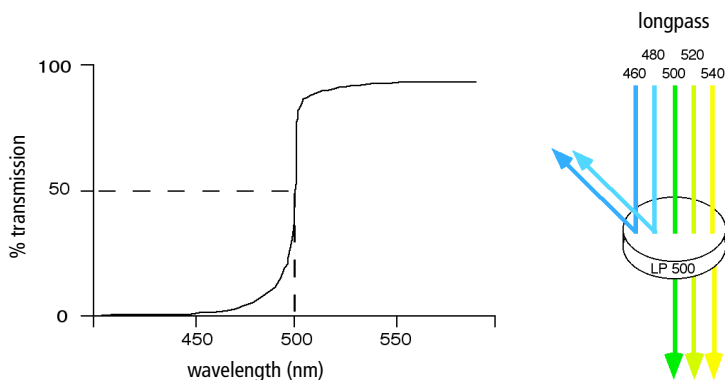

Figure 2-9 Light reflection by longpass filter
Longpass (LP) filters pass wavelengths longer than the filter rating and reflect shorter wavelengths. For example, a 500 LP filter permits wavelengths longer than 500 nm to pass through it and reflects wavelengths shorter than 500 nm (Figure 2-9).